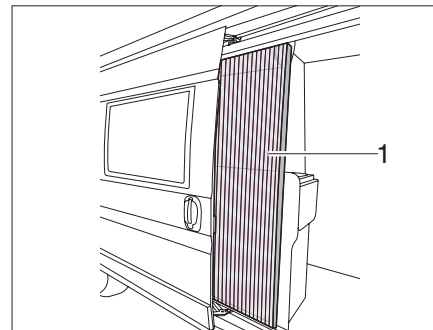

Fig. 21 Insect screen
- ▶ Pull out the insect screen completely at the strip (Fig. 21,1).
- ▶ Push the insect screen back into the starting position at the strip (Fig. 21,1).